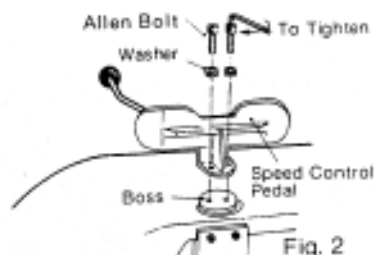

Fig. 2
2. Fix speed control pedal on Boss as shown in Fig. 2. Use the two Allen bolts and spring washers provided.